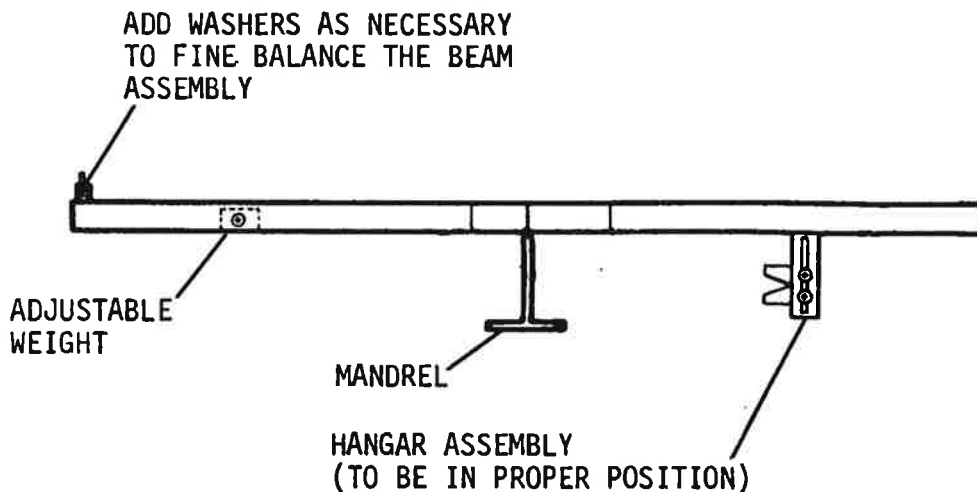

Figure 2. Balancing of Beam Assembly
B. (See Figure 2.) Balance the beam assembly as follows: